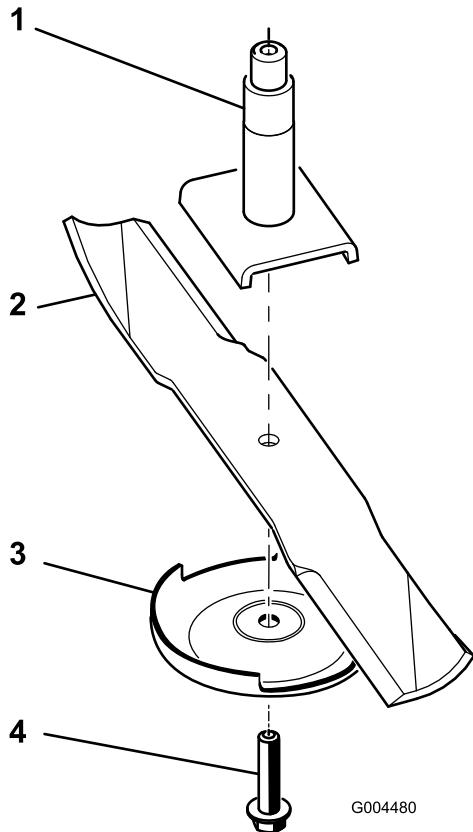

Figure 97
2. Remove the blade bolt, anti-scalp plate, and blade from the spindle shaft (Figure 97).
Note: If the blade stays in a horizontal position, the blade is balanced and can be used. If the blade is not balanced, file some metal off the end of the sail area only (Figure 97). Repeat this procedure until the blade is balanced.